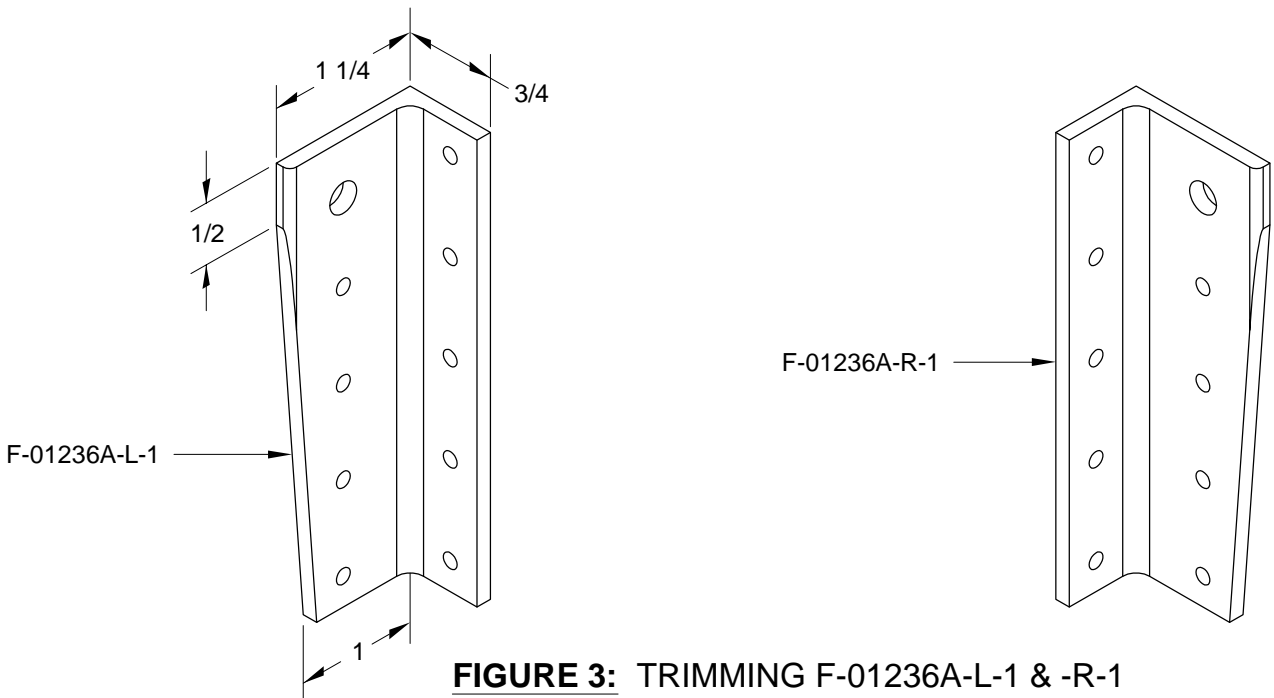

FIGURE 3: TRIMMING F-01236A-L-1 & -R-1
Step 3: Trim the flanges of F-01236A-L-1 & -R-1 as shown in Figure 3.